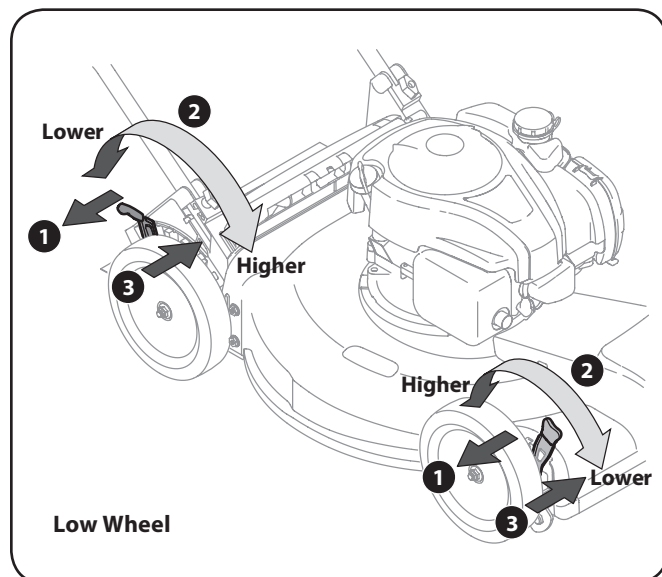
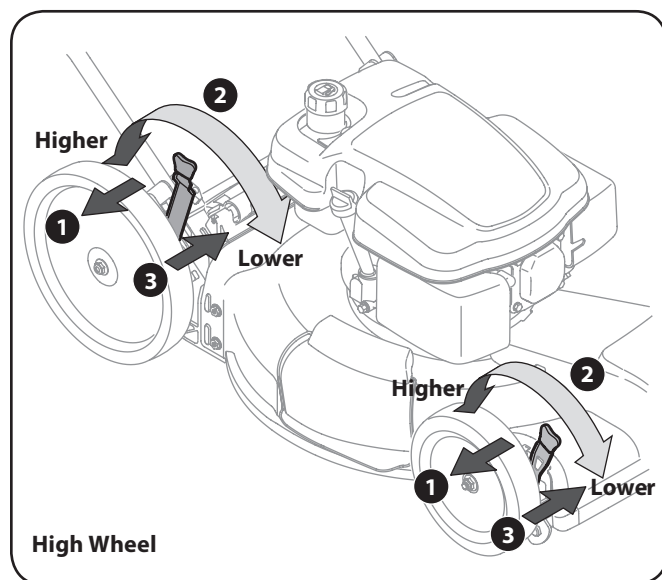

Figure 3-10
Figure 3-11
2. Move lever to desired position for a change in cutting height. See Figure 3-10 and Figure 3-11 .